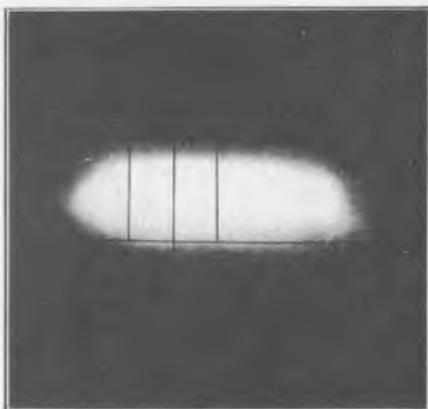

Fig. 124
- 155** The headlamps should be checked for alignment and focus. This is done with the empty car standing on a level surface and facing a white wall or screen 25 feet in front of the headlamps. The wall must be marked off with black lines as shown in Fig. 124 and 125, and must be shielded from direct light, so that the light spots from the headlamps can be clearly seen.
- 156** First turn on bright lights, then focus first one lamp and then the other, by means of the adjusting screw at back of lamps (See Fig. 126). Adjust the bulb filaments until an elongated elliptical spot of light appears on the wall with its long axis horizontal (See Fig. 124). When focusing, adjust the bulb to obtain as great a contrast and as well defined cutoff across the top of the spot of light as possible. With lamps thus focused for the "bright" filament, the "dim" will be in correct position.